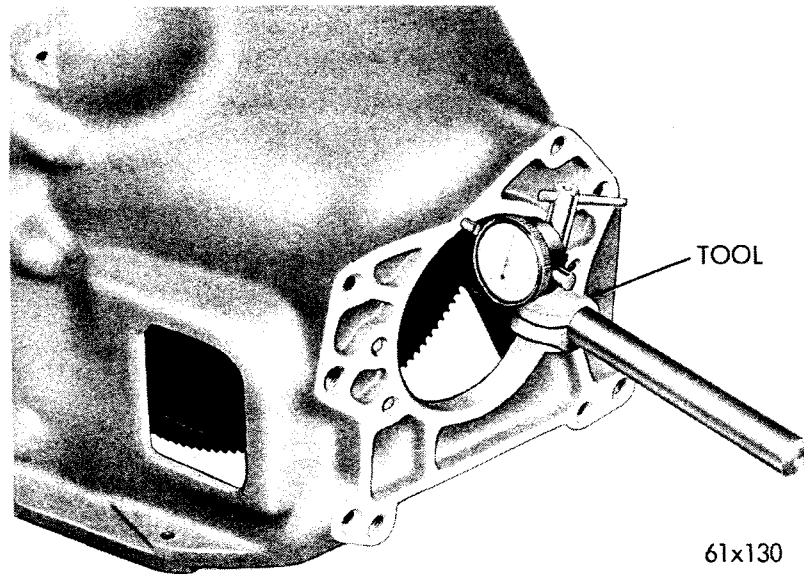

Fig. 72—Checking Clutch Housing Alignment
(5) Install and tighten clutch housing bolts to 50 foot-pounds. Remount dial indicator and recheck bore runout. Small corrections can be made by removing clutch housing (if necessary) and turning dowels with a screw driver to shift the housing and bring bore within limits. (Refer to Fig. 72.)
(6) Relocate dial indicator, as shown in Figure 72. Rotate fly-wheel, using Tool C-771. If the total indicator reading is greater than .003 note the amount of the total indicator reading and the location of the lowest indicator reading (i.e., the point where the indicator arm or follower is extended the furthest.)
(7) To correct excessive runout, place proper thickness of shim stock between the clutch housing and engine block or between transmission and clutch housing. After rechecking face runout, tighten housing bolts to 50 foot-pounds. Install transmission.